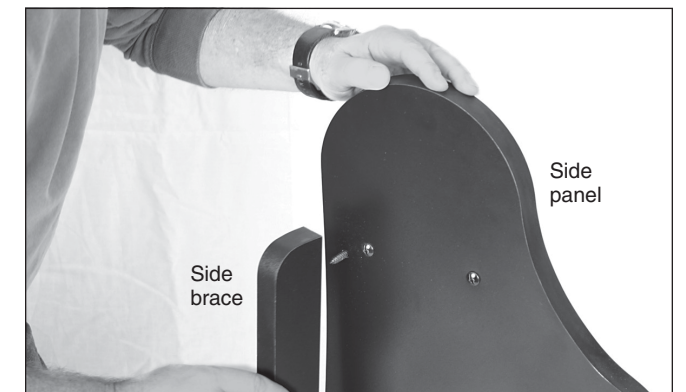

Figure 7. Attach a side brace to the outside of each side panel using three base assembly wood screws and the 4mm hex key.
2. Connect the side braces to the side panels using three base assembly screws for each panel (**Figure 7**). The brace should be attached to the outside surface of the side panel – the outside of the left side panel has the altitude motor housing attached. The screws go through the holes in the side panels and thread into the starter holes in the side braces. Use the included 4mm hex key to firmly tighten the screws, but be careful not to strip the holes by over-tightening!